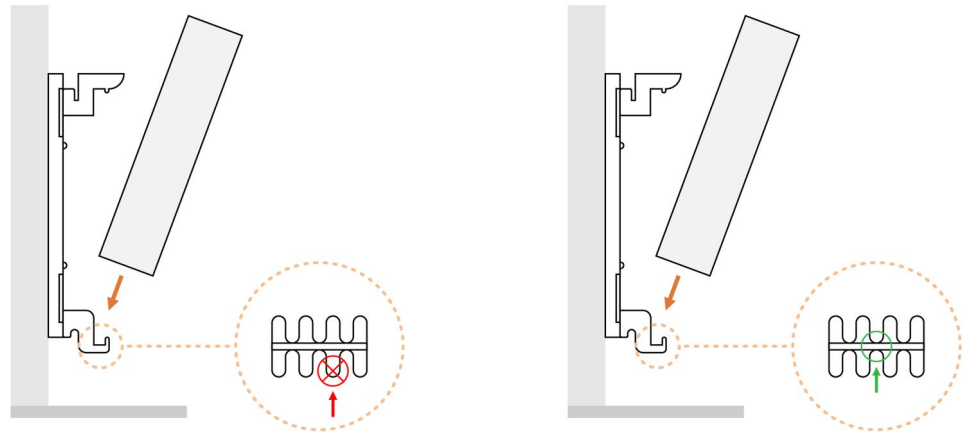

Figure 7 | Slotting the radiator in place. Left: incorrect hook location. Right: correct hook location.
- 9. Slot the bottom of the heater onto the bottom hooks so that the bottom hook fits between the ribs on the front of the heater (Figure 7).